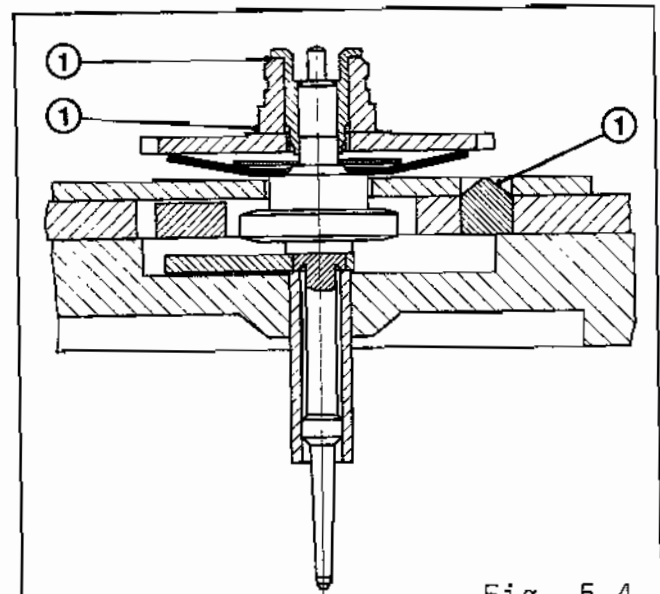

Fig. 5.4.
4.42 Press plate of chronograph mobile and oil top of coupling pipe. Release the plate, press again and oil underpart of coupling pipe (fig. 5.4).